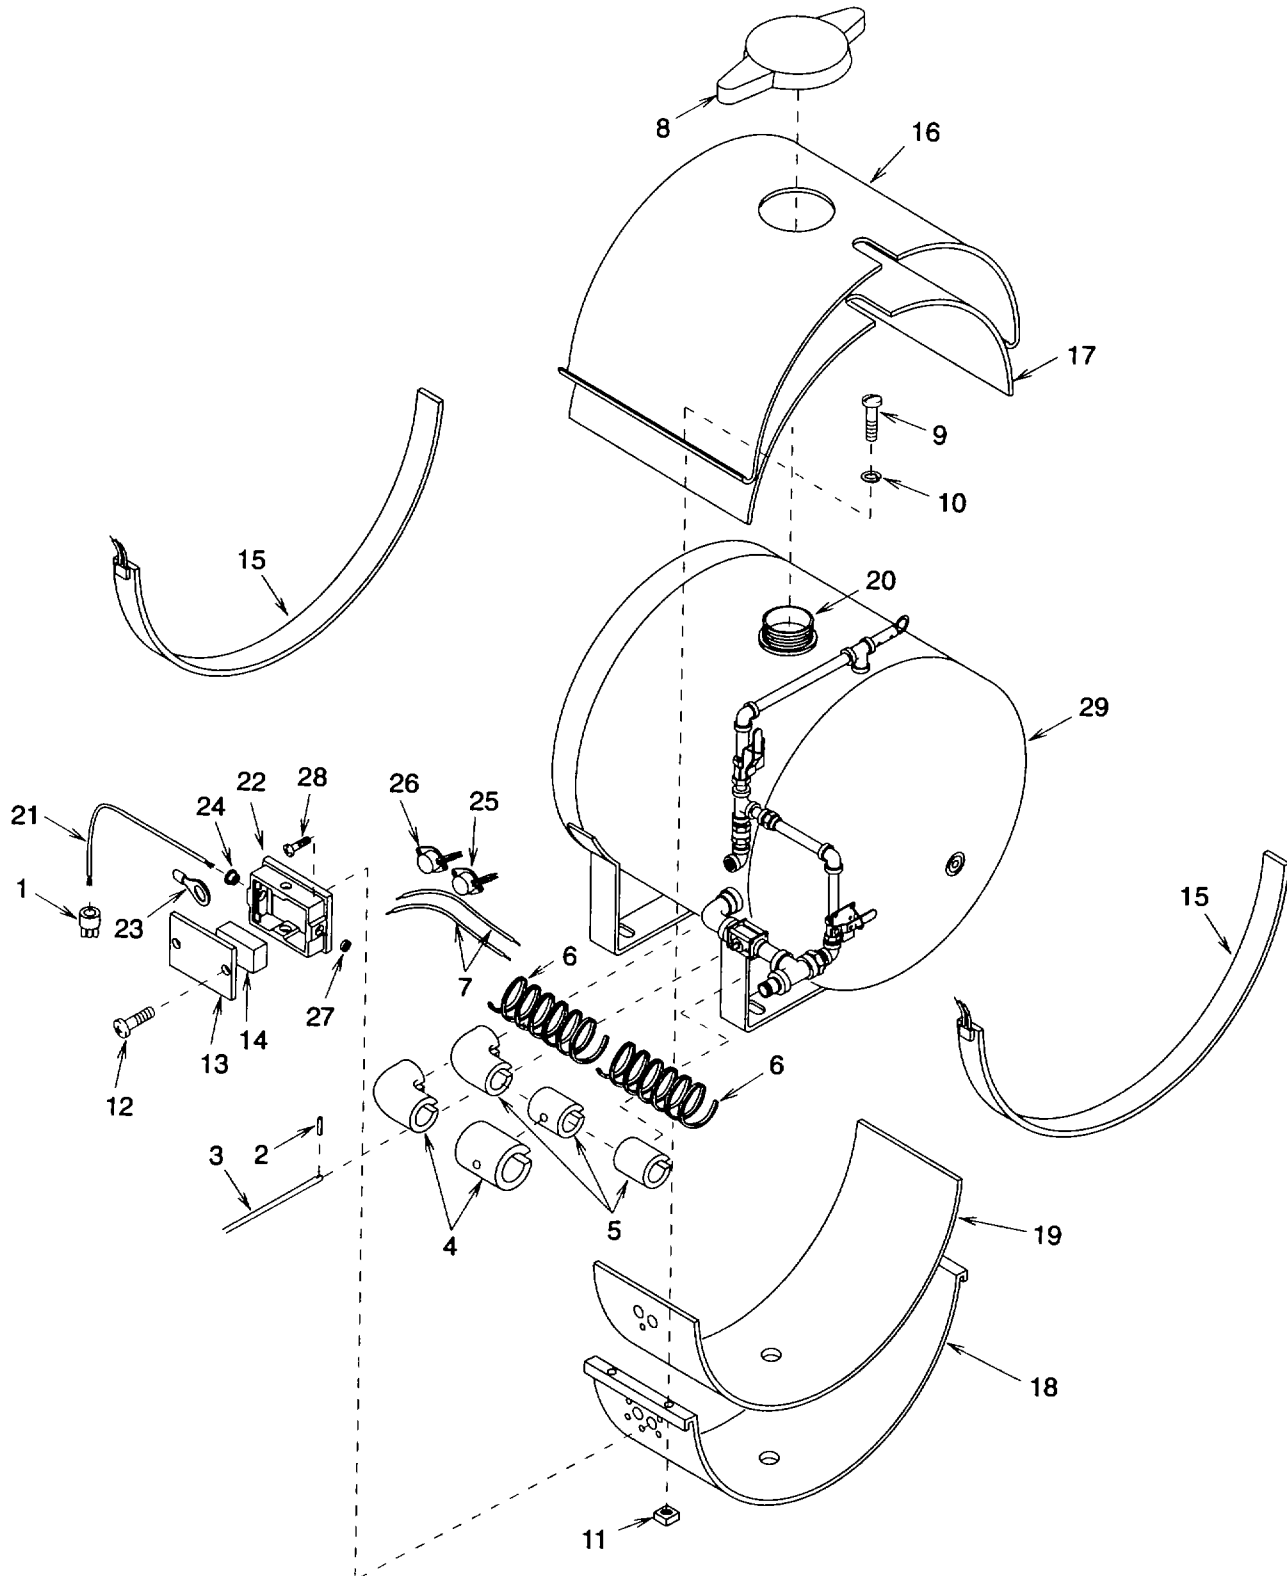

Figure 4-22. AFFF Tank Heater Assembly
**a. Disassembly** (See figure 4-22.)**WARNING****Servicing the equipment with power connected can result in serious personal injury or DEATH.**
- (1) Disconnect power plug (1) from power source.
- (2) Remove pin (2) and rod (3). Discard pin.
- (3) Remove insulation protectors (4) and insulation (5).
- (4) Tag and disconnect heating cable (6) leads from wire leads (7).
- (5) Remove heating cables (6) and any electrical insulation tape that may be left on pipes
- (6) Check that cylinder valves are closed and system pressure has been relieved. See paragraph 4-11 steps (1) and (2).
- (7) Remove fill cap (8).
c. Assembly (See figure 4-22 )
- (1) If using new heater blankets (15), peel backing paper off to expose adhesive. Attach heater blankets to tank (29).
- (2) Install enclosure (22) and four screws (28).
- (3) Install knock out plug (27).